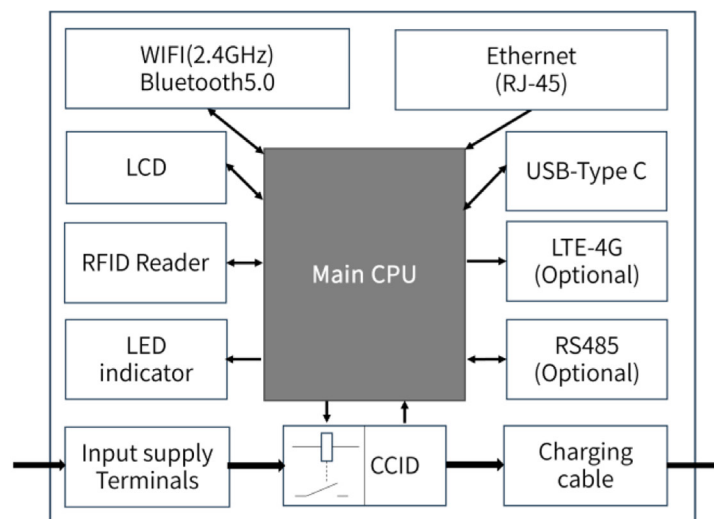

Fig. 4-2 Block diagram of IM3C
- ▶ The block diagram of IM3C AC EV charger is shown as Fig. 4-2.